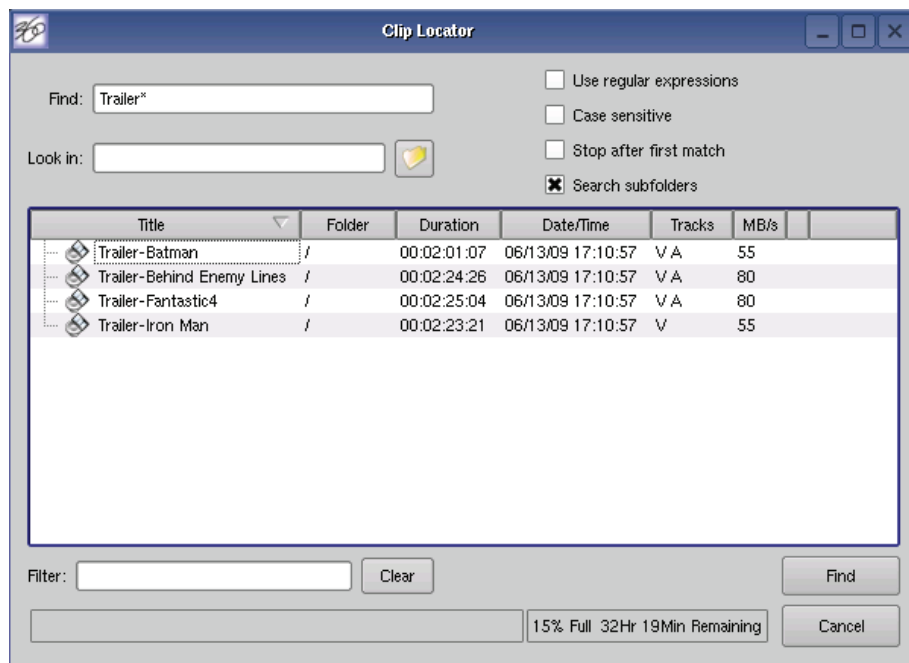

Figure 20 - Clip Locator
1. Click **SHOW>FIND CLIPS**. The Clip Locator screen of **Figure 20** appears.